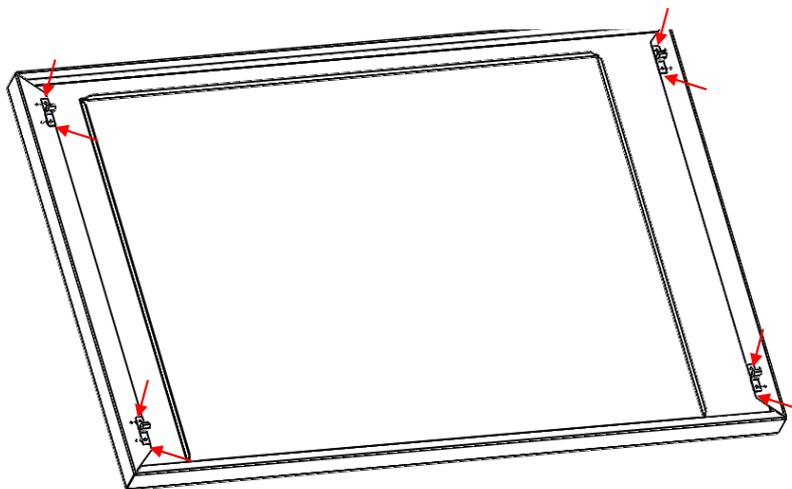
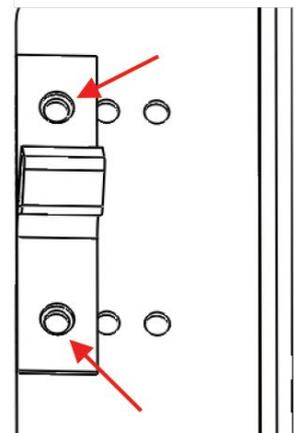

Figure 6
Figure 7
3. Lay the outer trim face down and, using eight of the #2 screws, install the four buckles on the corresponding mounting holes around the trim kit (see Figure 6). Make sure to use the same series of mounting holes on each corner, depending on your cabinet cutout (see Figure 7).